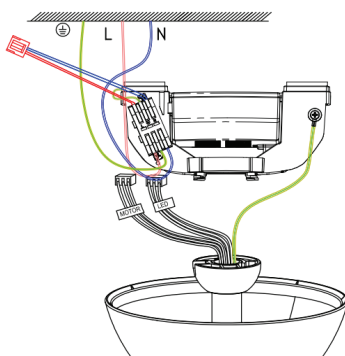

Fig. 6
(Refer to Fig 6.).
- Screw “EARTH” cable from motor to cavity  $\oplus$  on the mounting bracket. Please refer to Fig 6.